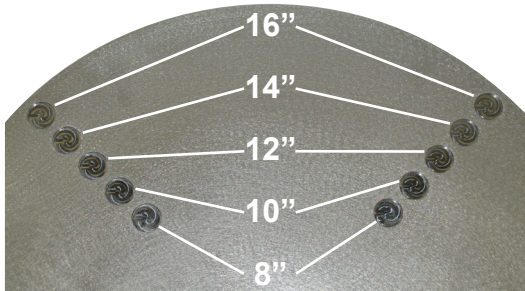

Fig 1
2. Move the magnetic stoppers to the appropriate notch for docking the size of dough you wish. **[See Figure 1]**